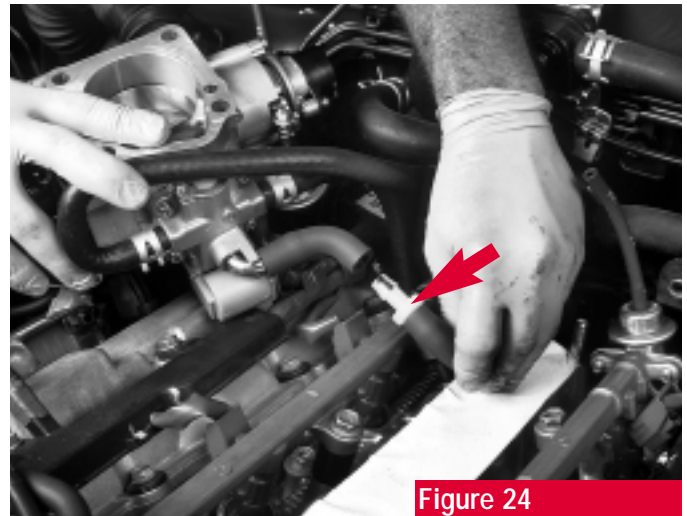

Figure 24
1. Cut the hose leading to the IAC valve connector at the location shown, and insert the kit's one-way valve into the straight part of the hose. The black end of the valve (**see arrow, figure 24 and diagram on page 19**) is closest to the throttle body.